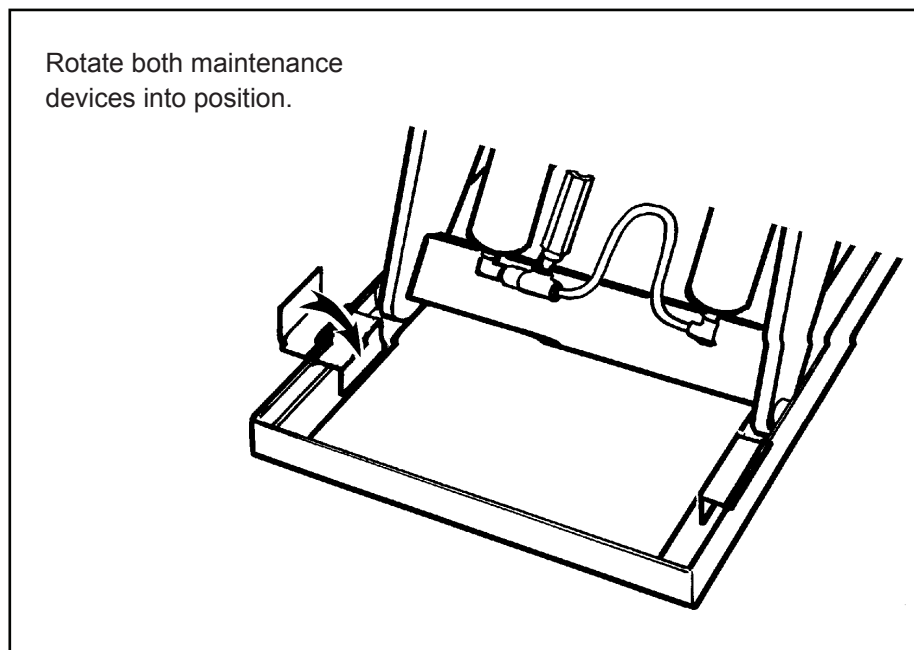

Figure 1 – Safe Servicing of Lift
3. **Move both maintenance devices** into position as shown in Fig. 1. Lower the table just a bit so the movable legs are resting against the maintenance devices. This will release the pressure in the hydraulic system. If you do not do this, pressure may remain in the hydraulic system. If this pressure is released suddenly, you may be hurt, or the lift may be damaged. Once in position the maintenance devices will keep the legs from moving, and prevent the lift from dropping suddenly.
Raise the lift and insert the maintenance devices, as shown in Figure 1. Make the permanent electrical connections as shown in Figure 14 or 15. Check the level of the hydraulic fluid. On most models, when the lift is fully elevated, the oil should be about 3/4 inch above the bottom of the tank. Use a dipstick to check the oil level, and add oil as necessary.
When adjusting the flow control, always raise the lift table and insert the maintenance devices, as shown in Figure 1. Do not try to adjust the flow control while pressing the “down” button. If you try this, the lift table may drop suddenly, and you may be hurt.
- Raise the lift table and insert the maintenance devices, as shown in Figure 1.
- Every time you want to change the adjustment again, raise the table again and insert the maintenance devices as shown in Figure 1.